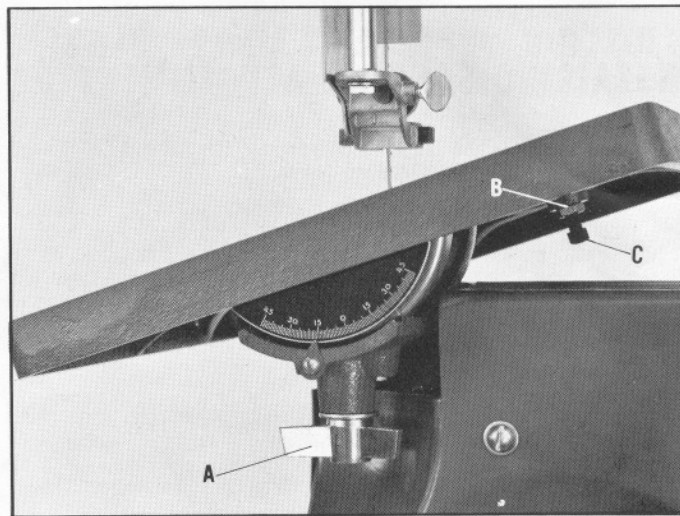

Fig. 12.
The table tilts 45 degrees to the right and about 10 degrees to the left. To tilt the table, loosen hand knob (A) Fig. 12, tilt table to desired angle and tighten hand knob (A). A stop screw (C) is provided to position the table 90 degrees to the blade. Loosen locknut (B) Fig. 12, and turn stop screw (C) in or out so that it contacts the frame when the table is 90 degrees to the blade.
If necessary to tilt the table a small amount to the left, remove the stop screw (C) and locknut (B) Fig. 12.